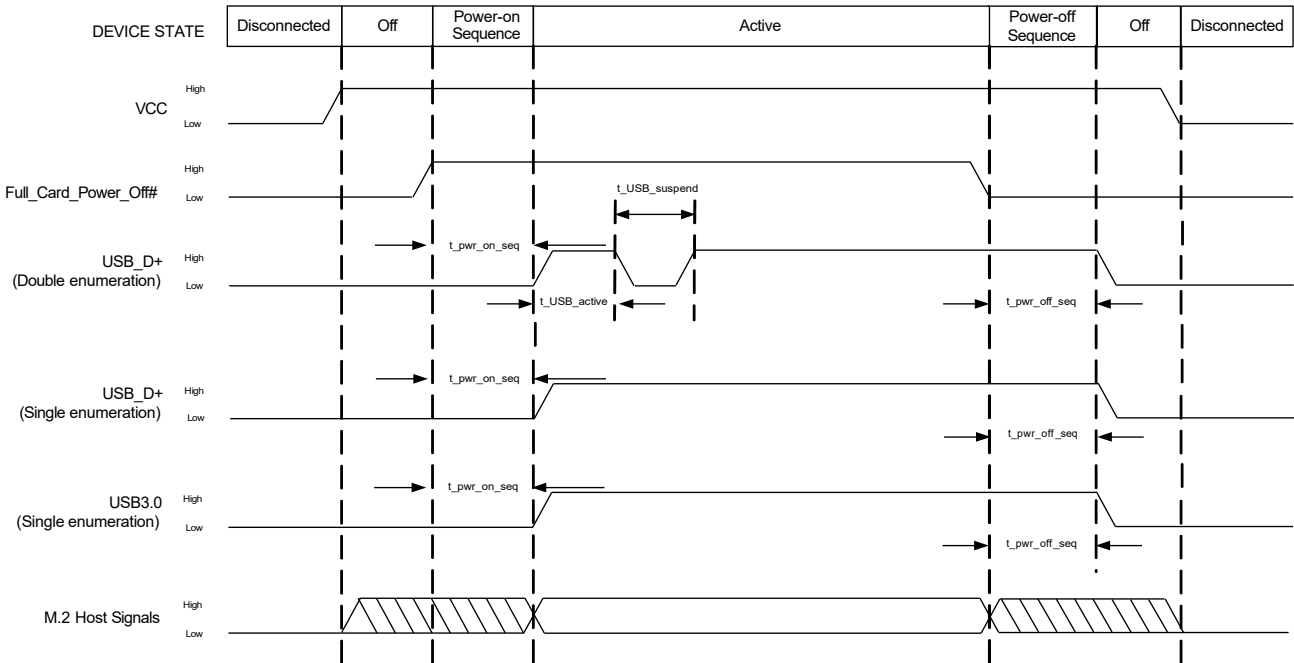

Figure 4-2: Signal Timing (Full_Card_Power_Off#, and USB Enumeration)
Figure 4-2 describes the timing sequence for powering the module on and off.
- Double enumeration—As shown in Figure 4-2: